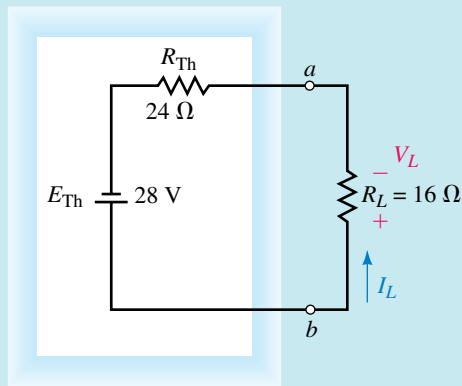

FIGURE 9-13
Step 6: The resulting Thévenin equivalent circuit is shown in Figure 9-13.